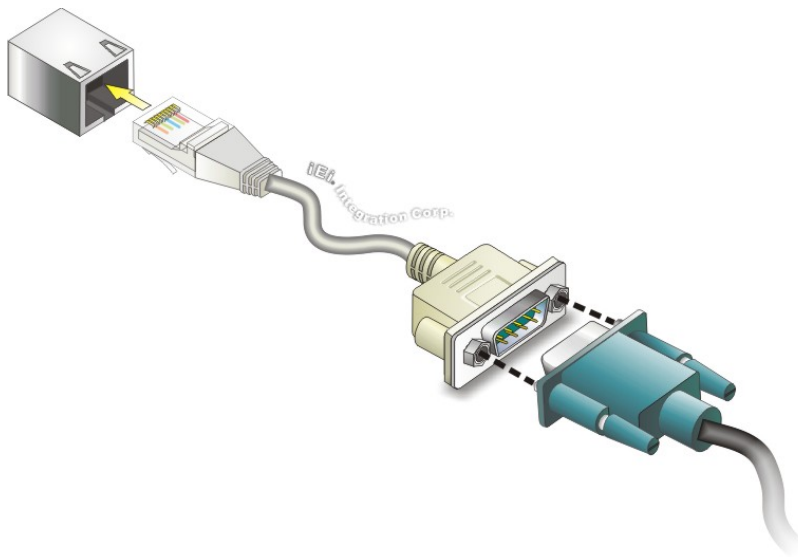

Figure 3-17: RJ-45 RS-232 Serial Device Connection
Step 2: **Insert the RJ-45 connector.** Insert the RJ-45 connector on the RJ-45 to DB-9 COM port cable to one of the RJ-45 RS-232 connectors on the TANK-871-Q170i series. See **Figure 3-17**.